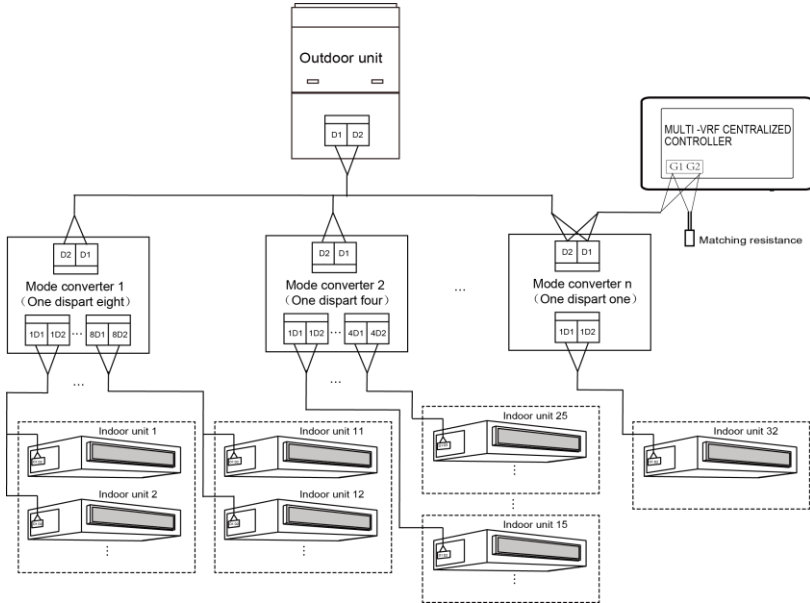

Fig. 1.6 Centralized Controller Connected with Heat Recollection Mode Converter Network
- ⑤ If the centralized controller is to be connected with the network of heat recollection, connect according to Fig. 1.6. The method 2 is also applicable to centralized controller switching in heat recollection network.